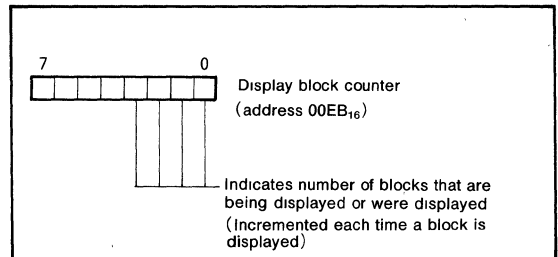

Fig. 37 Structure of display block counter
- ① Read the value of the display block counter.
- ② The block for which display is terminated (i.e., the cause of CRT interrupt generation) can be determined by the value read in ①.
- ③ Replace the display character data and display position of that block with the character data (contents of CRT display RAM) and vertical display position (contents of vertical position register) to be displayed next.
- Figure 37 shows the structure of the display block counter.